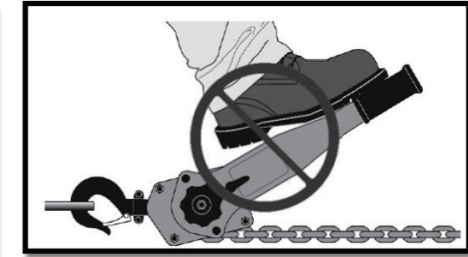

FIG 8
- Do not use a foot to apply pressure to the lever (FIG 8).